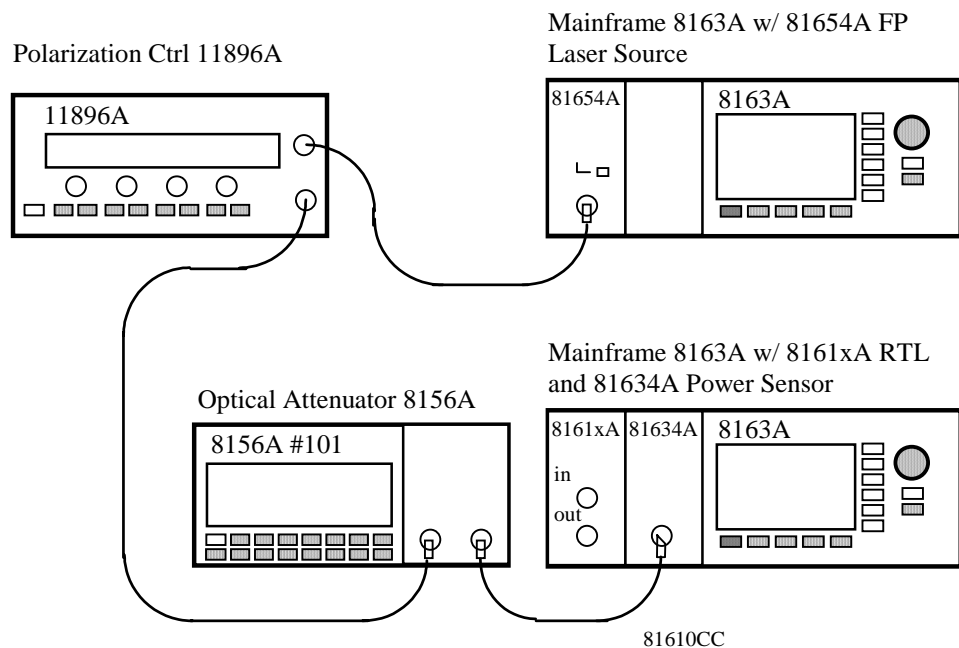

Figure 42 81610CC Reference Cable - Initial Setup
- 2 Setup the equipment as shown in Figure 42.